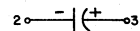

Fig. 14—400D (MD) KTU Connections (CO/PBX Line) in 620A or 620A2 Panel
A. 400-Type KTU—CO/PBX Line Circuit (Fig. 14, 15, and 16)